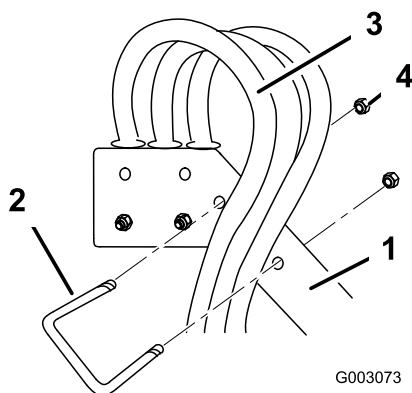

Figure 17
2. Leaving a gentle loop in hoses, to relieve stress from the hose and flow monitor connection and hose restriction, secure the center boom hoses to the machine frame using a U-bolt and two lock nuts (3/8 inch) as shown in Figure 17.